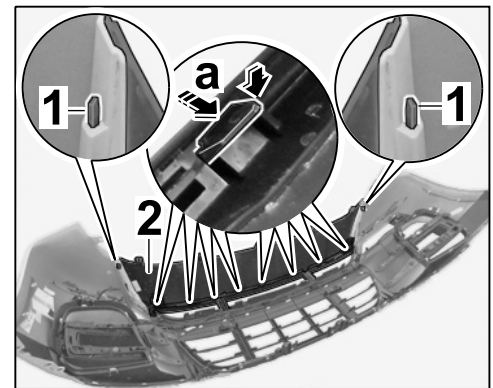

Figure 7
1.4.1 Press down the locking lug (⇒ *Figure 7 -arrow a-*) and unclip front spoiler from front apron (⇒ *Figure 7 -arrow-*).